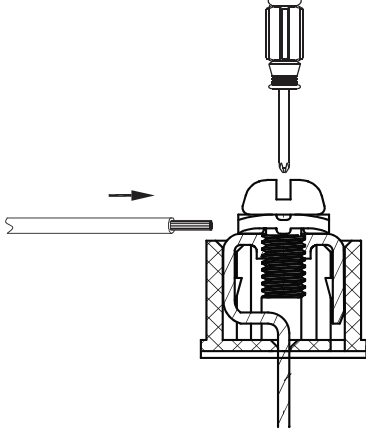

Fig. 9 — Connecting Communication Wire to Outdoor Unit Communication Terminal
- Use a suitable screwdriver to fix the communication wire on the outdoor unit communication terminal as shown in Fig. 9.